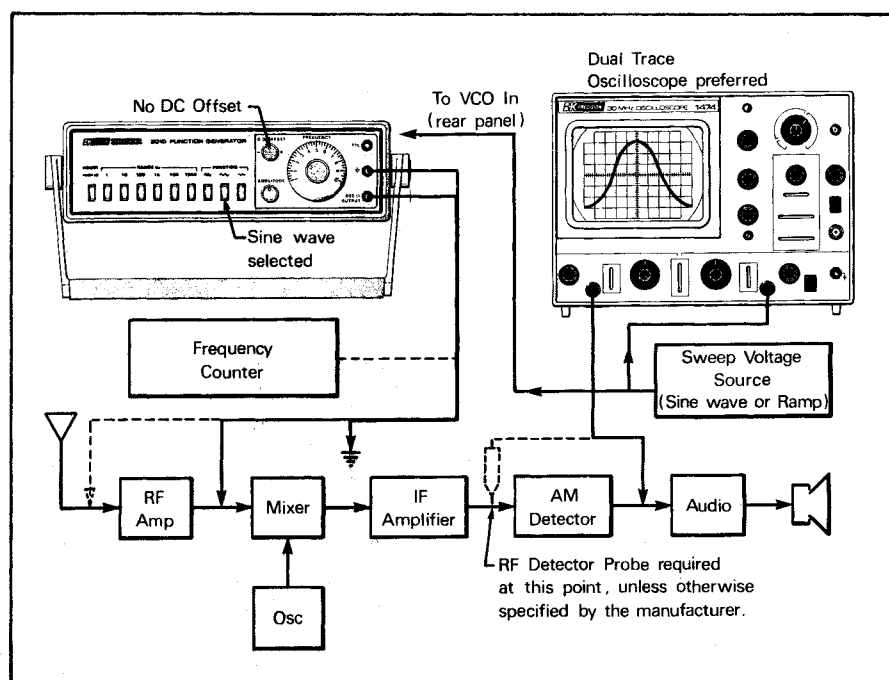

Fig. 11. AM receiver alignment, RF and IF.
1. Use the test set-up of Fig. 11. Because of the linear relationship between sweep voltage and frequency of the Model 3010, a linear frequency presentation is obtained on the oscilloscope, regardless of whether the sweep voltage is a triangle, sine wave or a ramp.